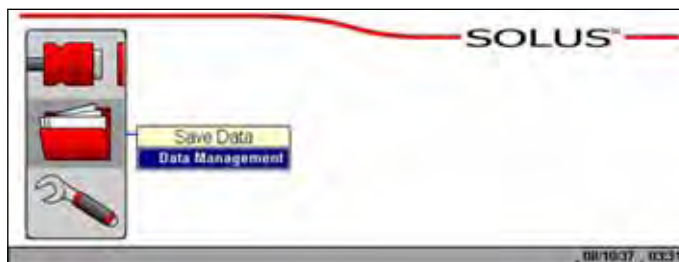

Figure 5-42 Data Management menu option
2. Select the **Data Management** option (Figure 5-42).